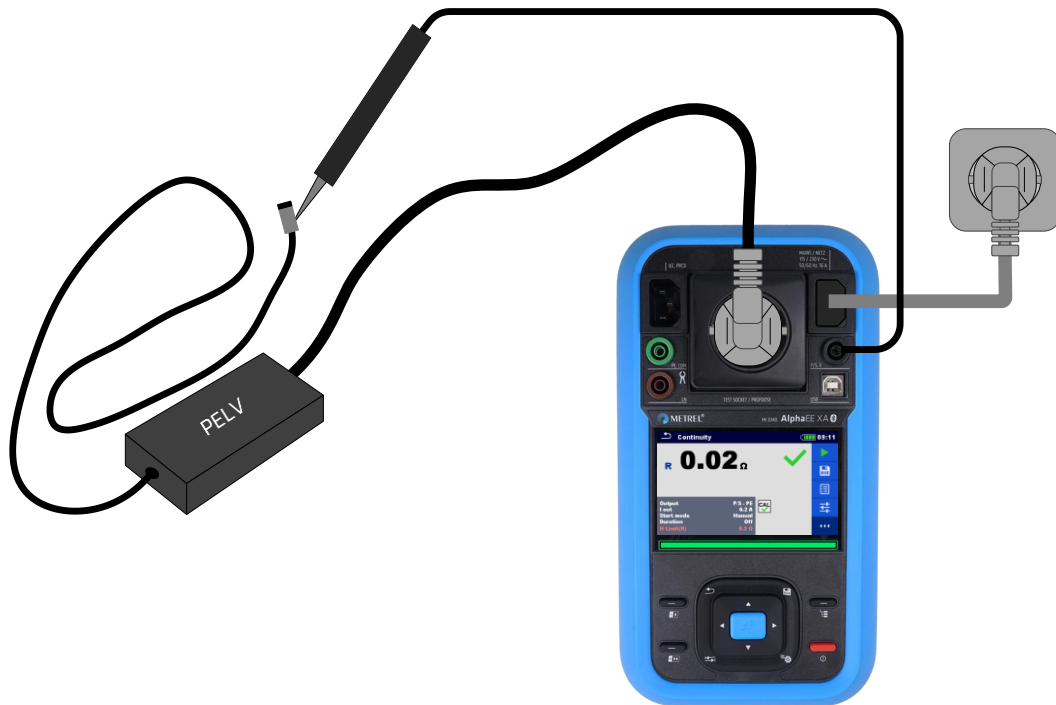

Figure 183_Continuity of protective earth
- Connect the DUT according to the connection diagram Figure 183_Continuity of protective earth,